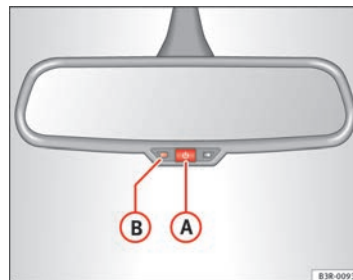

Fig. 104 Interior rear view mirror with anti-dazzle setting: Indicator lamp and on/off switch ►
- Press button **(A)** ⇒ page 131, fig. 104. Warning lamp **(B)** goes out:
- Press button **(A)** ⇒ page 131, fig. 104. The indicator lamp **(B)** will light up.